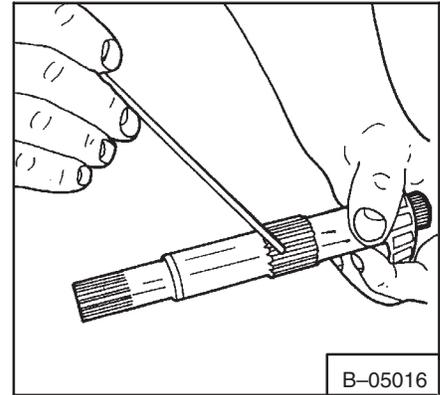

Fig. 3-117 Checking Shaft
- Check the shaft and collar for wear and damage to the spline (Fig. 3-117).